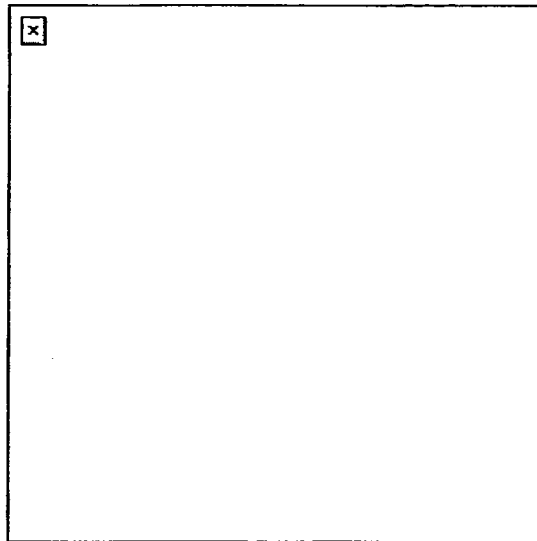

Figure 191-381-1327-1
1. Ensure the accuracy of the information contained on the DD Form 2708 (Figure 191-381-1327-1) for a inmate being released for a short period of time, such as for a doctor or dentist appointment.